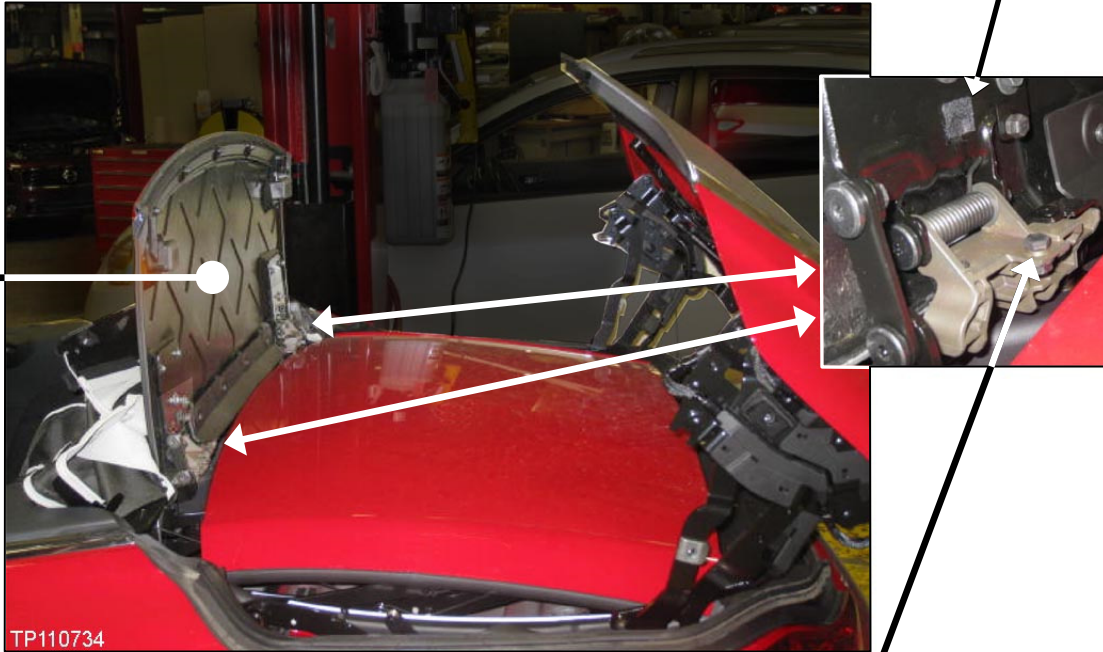

Figure 45f
42. Next, close the trunk lid, open the roof as shown in Figure 45f, and then inspect for felt cloth.
43. Locate the two adjusting bolts, and adjust the bolt heads to 6.5 - 7.0 mm (0.255 - 0.275 inches). See Figure 45f and 46f.